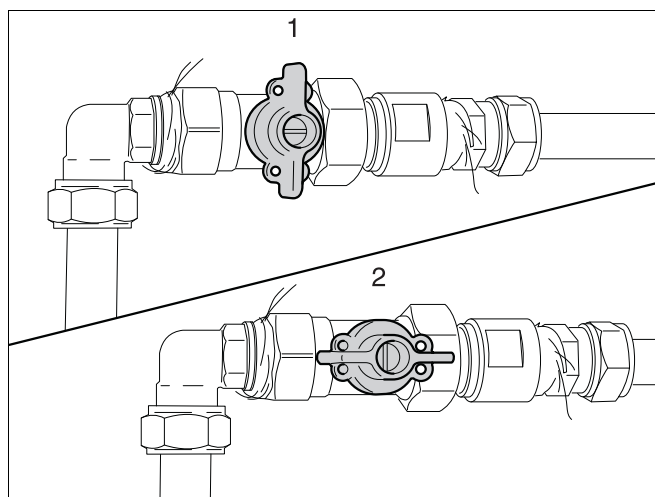

fig. 41 Gas shut-off valve closed (1), gas shut-off valve open (2)
- Close the gas shut-off valve (see fig. 41, pos. 1).